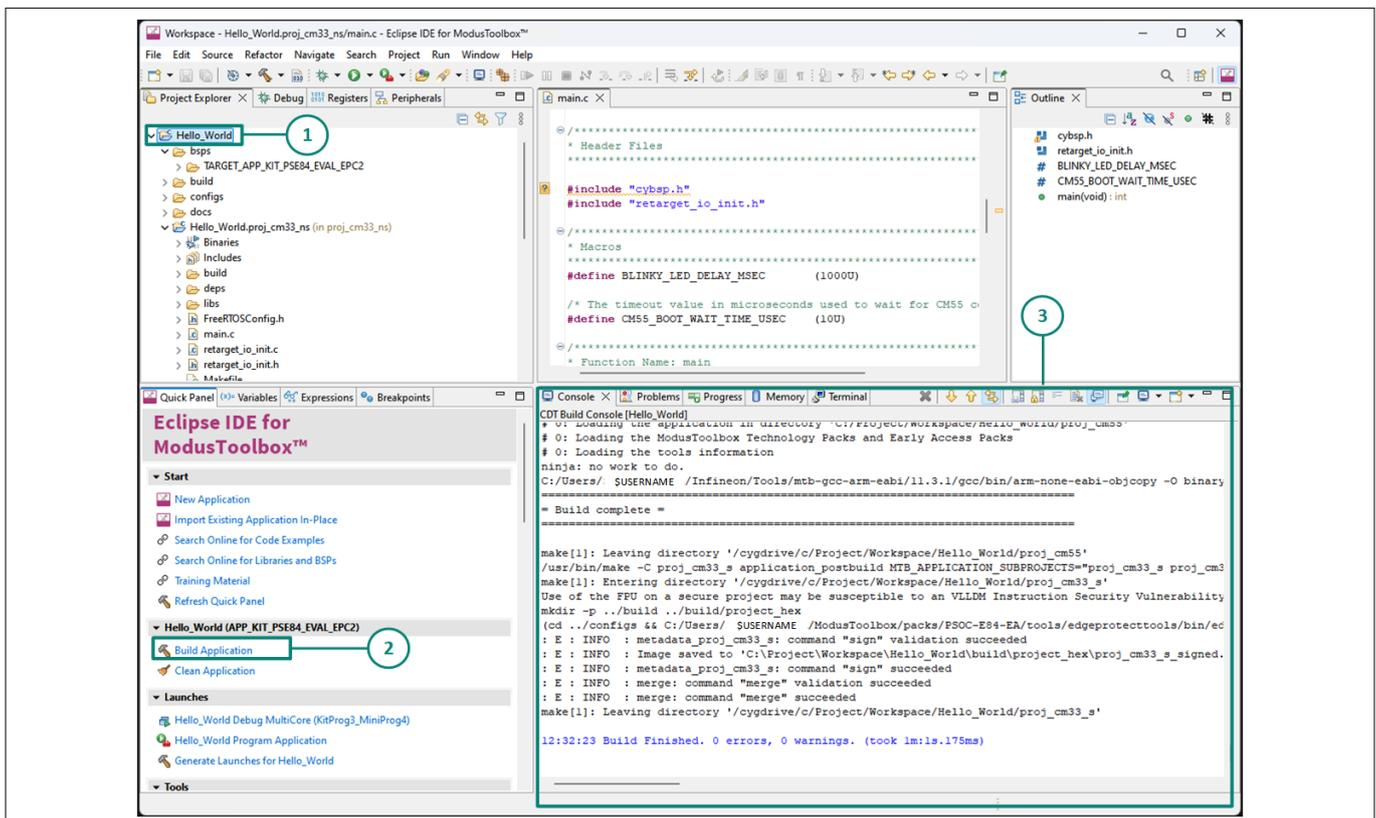

Figure 16 Build the Application
This section explains how to build the application. Follow these steps, as shown in Figure 16:
3. It selects the build configuration from Makefiles and compiles or links all projects that constitute the application. By default, debug configurations are selected. The **Console view** lists the results of the build operation, as shown in Figure 16